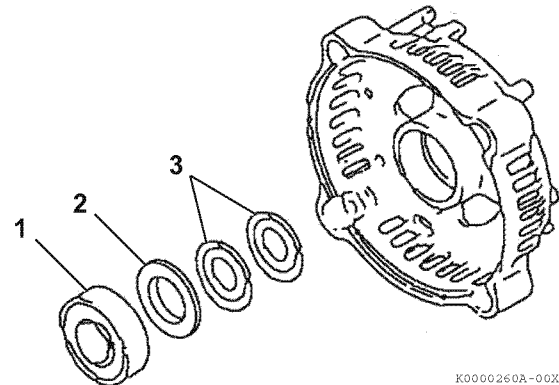

Figure 11-12
1. If removed, install the two thrust washers (**Figure 11-12, (3)**) and bearing cover (**Figure 11-12, (2)**) in the rear frame housing. Lubricate the outside diameter of a new bearing (**Figure 11-12, (1)**). Press the bearing into the rear frame housing.